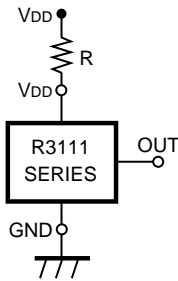

Figure 9
1. In Figure 9, When R3111xxx1C is used, and if an impedance is connected in between Voltage Supplier and the V_{DD} Pin of R3111xxx1C Series, the operation might be unstable by through-type current at detection. When R3111xxx1A is used in Figure 9, if the value of R is set excessively large, voltage drop may occur caused by supply current of IC itself and Detector threshold may vary.